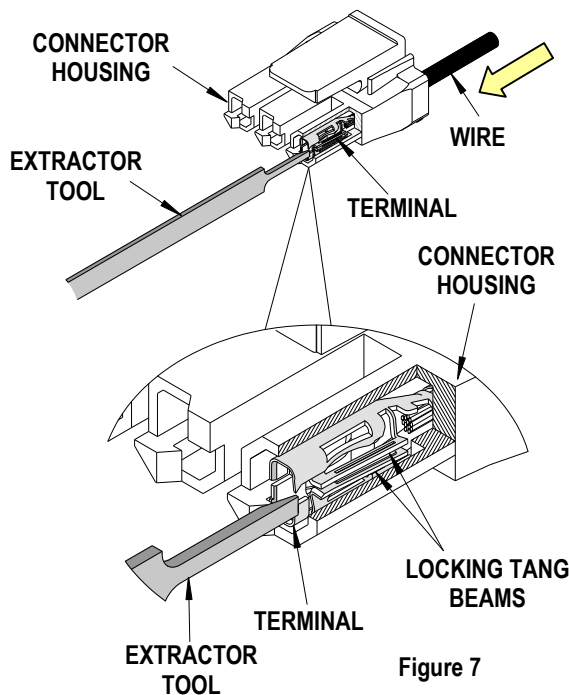

Figure 7
4. Push the terminal forward in the arrow direction before using the Extractor Tool as shown in Figure 7. Insert the Extractor Tool into the slot on the side of the connector housing.